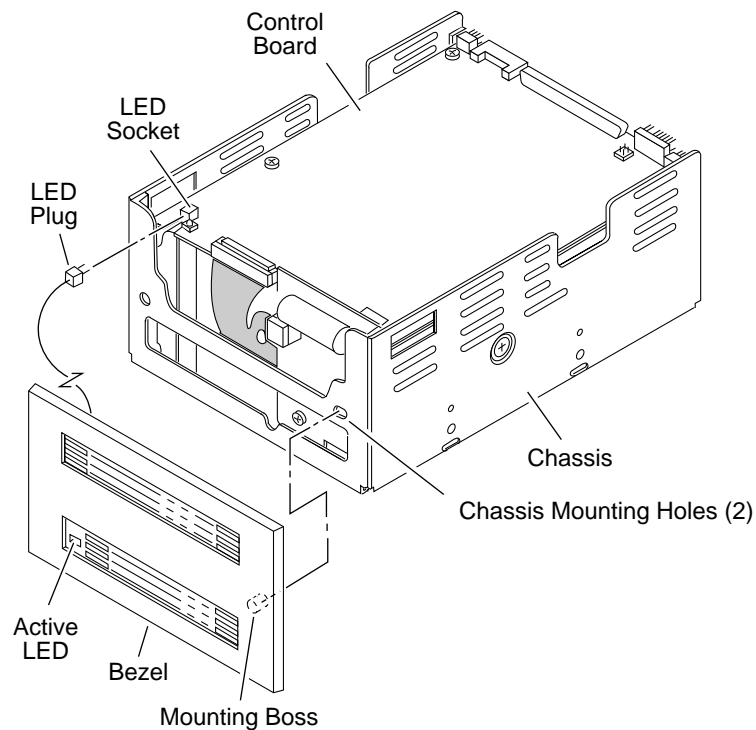

Figure 13. Attaching a bezel (ST43401N/ND shown)
2. Orient the drive and bezel as shown in Figure 13.